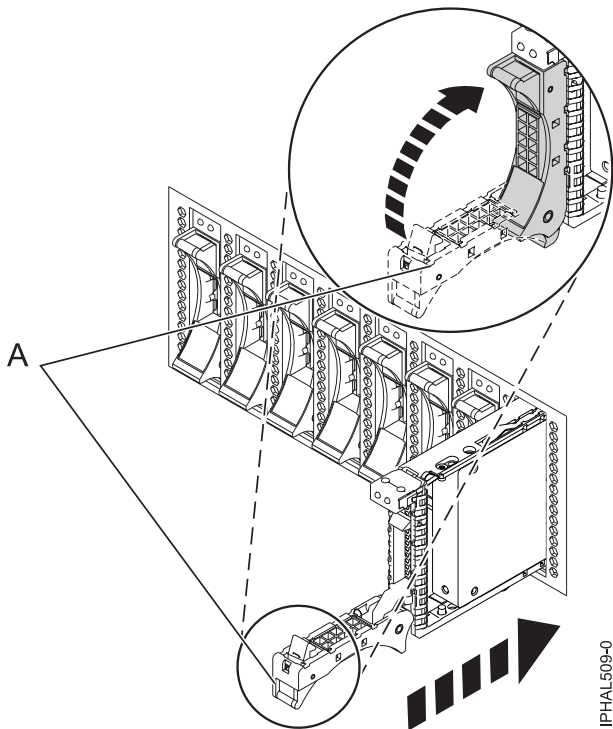

Figure 27. Replacing a disk drive or solid-state drive in the system
6. Slide the disk drive or solid-state drive all the way into the system or an expansion unit, and push the drive handle (A) in until it locks, as shown in Figure 27.